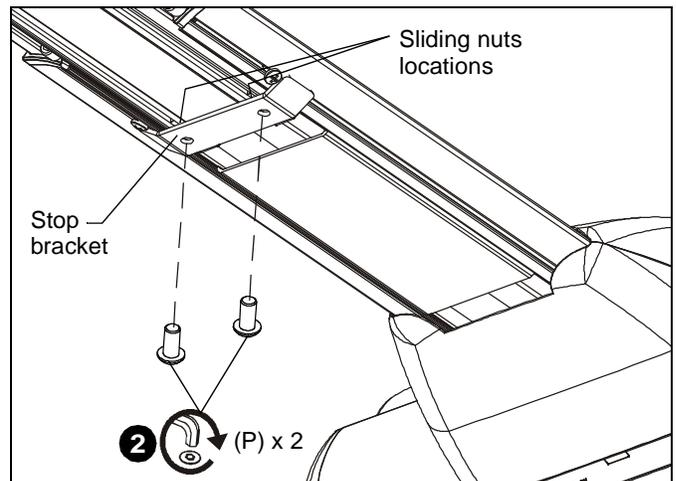

Figure 43
2. Install two 1/4-20 x 1/2" button head security screws (P) through holes in stop bracket and into holes in sliding nuts. (See Figure 43)